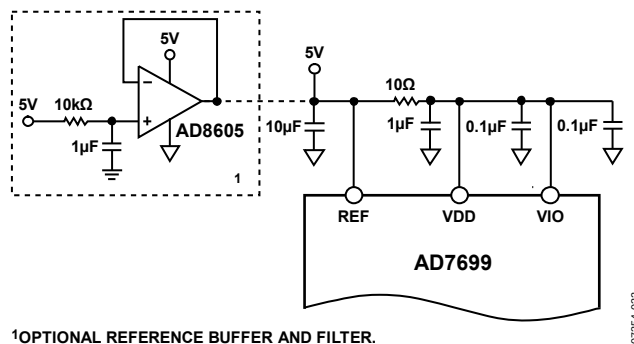

Figure 36. Example of an Application Circuit
In any of the five voltage reference schemes, an external reference can be connected directly on the REF pin because the output impedance of REF is  $>5\text{ k}\Omega$ . To reduce power consumption, the reference and buffer can be powered down independently or together for the lowest power consumption. When only using the external reference (and optional reference buffer as shown in Figure 36), an internal buffer is disabled. Refer to Table 10 for register details. For improved drift performance, an external reference such as the ADR430/ADR431/ADR433/ADR434/ADR435 or ADR440/ADR441/ADR443/ADR444/ADR445 is recommended.
For simplified applications, the AD7699, with its low operating current, can be supplied directly using the reference circuit, as shown in Figure 36. The reference line can be driven by
- A reference buffer, such as the AD8605, which can also filter the system power supply, as shown in Figure 36